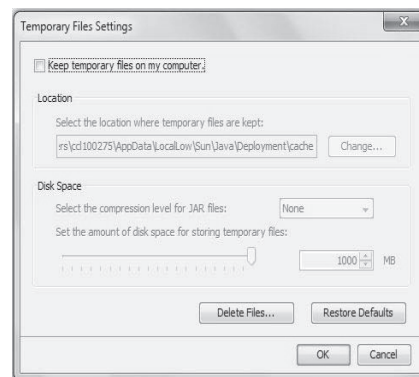

Fig. 76 — Temporary File Settings
- **Temporary internet files:** In the Java Control Panel, click Settings in the Temporary Internet Files section. Be sure the setting Keep temporary files on my computer is unchecked (clear). See Fig. 76.